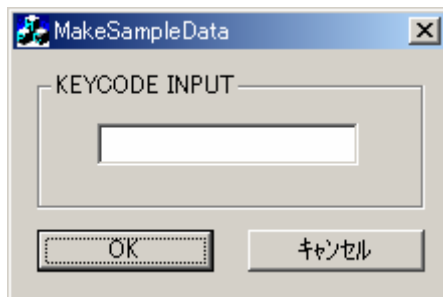

Fig. 3-2 MakeSampleData dialog box
3. Click MakeSampleData.exe on the microSD card. The dialog box shown in Fig. 3-2 will appear.